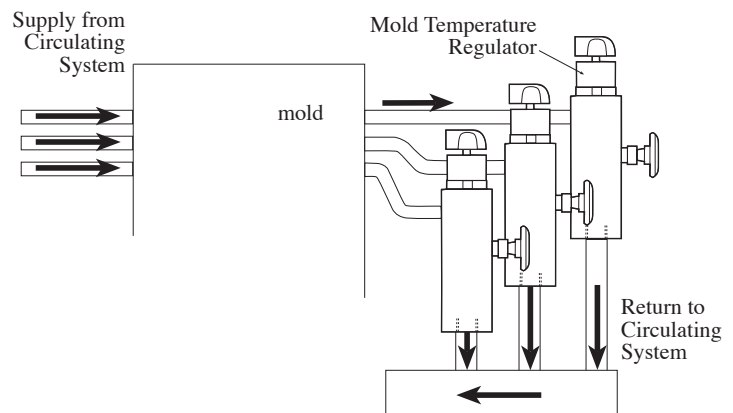

figure 3
To control multiple zones at different temperatures, connect a regulator to each separate zone as shown in figure 3.
- There is too much heat in the mold, separate the circuits (if using a manifold), use one regulator per cooling line. See figure 3.